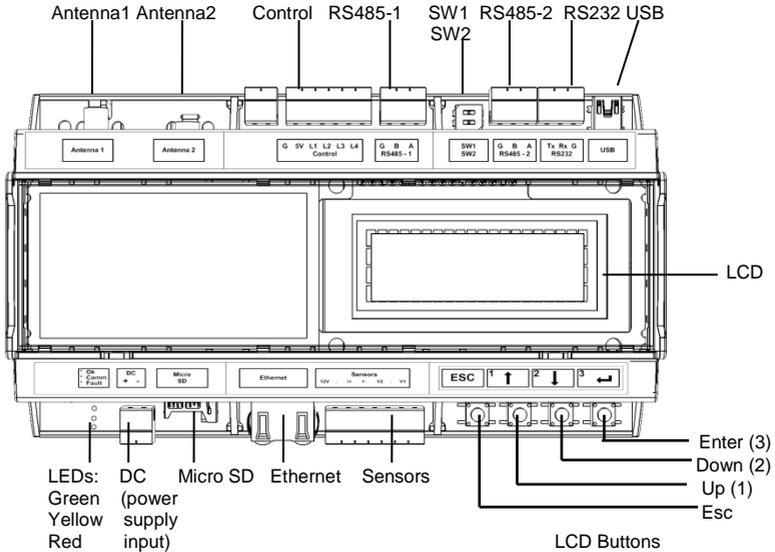

Figure 5: Gateway Interfaces
- 1 Insert the power supply DC connector to the SolarEdge gateway (see Figure 5).
The LCD screen displays various configurable menus and status parameters of the SolarEdge gateway. Four buttons are used for controlling the LCD menus (see Figure 5).